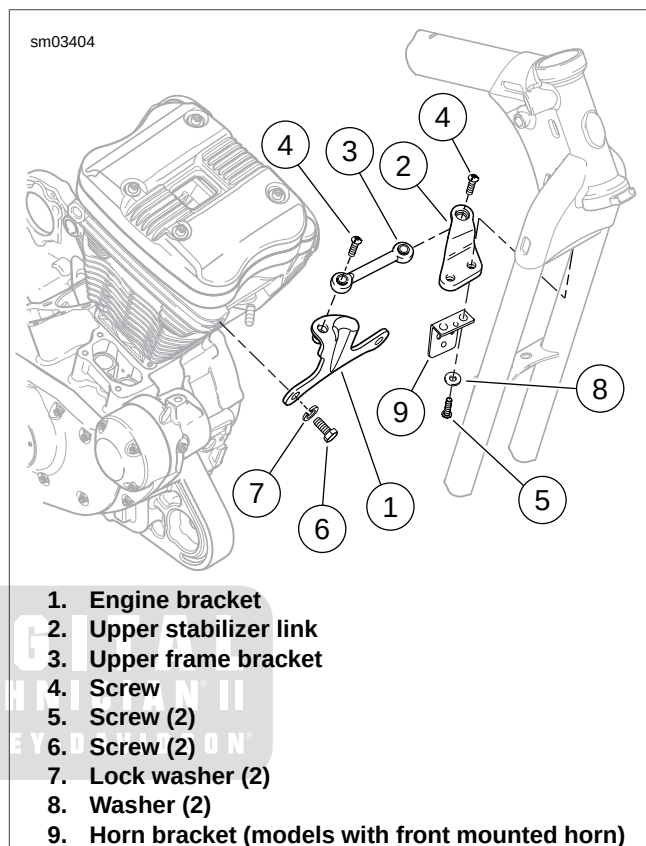
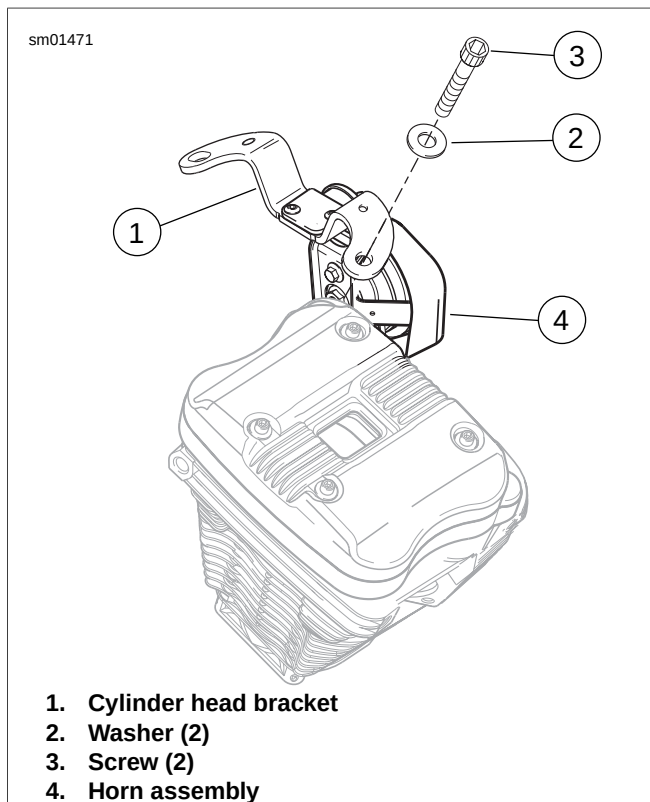

Figure 3-66. Upper Front Stabilizer Link Assembly (typical)
Figure 3-67. Horn and Cylinder Head Bracket (Models With Side Mounted Horn Only)
1. See Figure 3-66. Install upper front stabilizer link and frame bracket:
- a. Install upper frame bracket (3) with upper stabilizer link (2), horn bracket (9) (models with front mounted horn), screws (5) and washers (8). Tighten screws to 25-35 ft-lbs (33.9-47.5 Nm).
- b. Install screw (4) securing stabilizer link to engine bracket (1). Tighten screw to 25-35 ft-lbs (33.9-47.5 Nm).
- a. Throttle Position (TP) sensor connector [88].
5. **Models with side mounted horn:** See Figure 3-67. Install cylinder head bracket (1) with horn (4) onto cylinder heads as a unit. Secure with two screws (3) and washers (2). Tighten screws to 17-24 ft-lbs (23.1-32.6 Nm). Plug wiring harness connectors into horn.